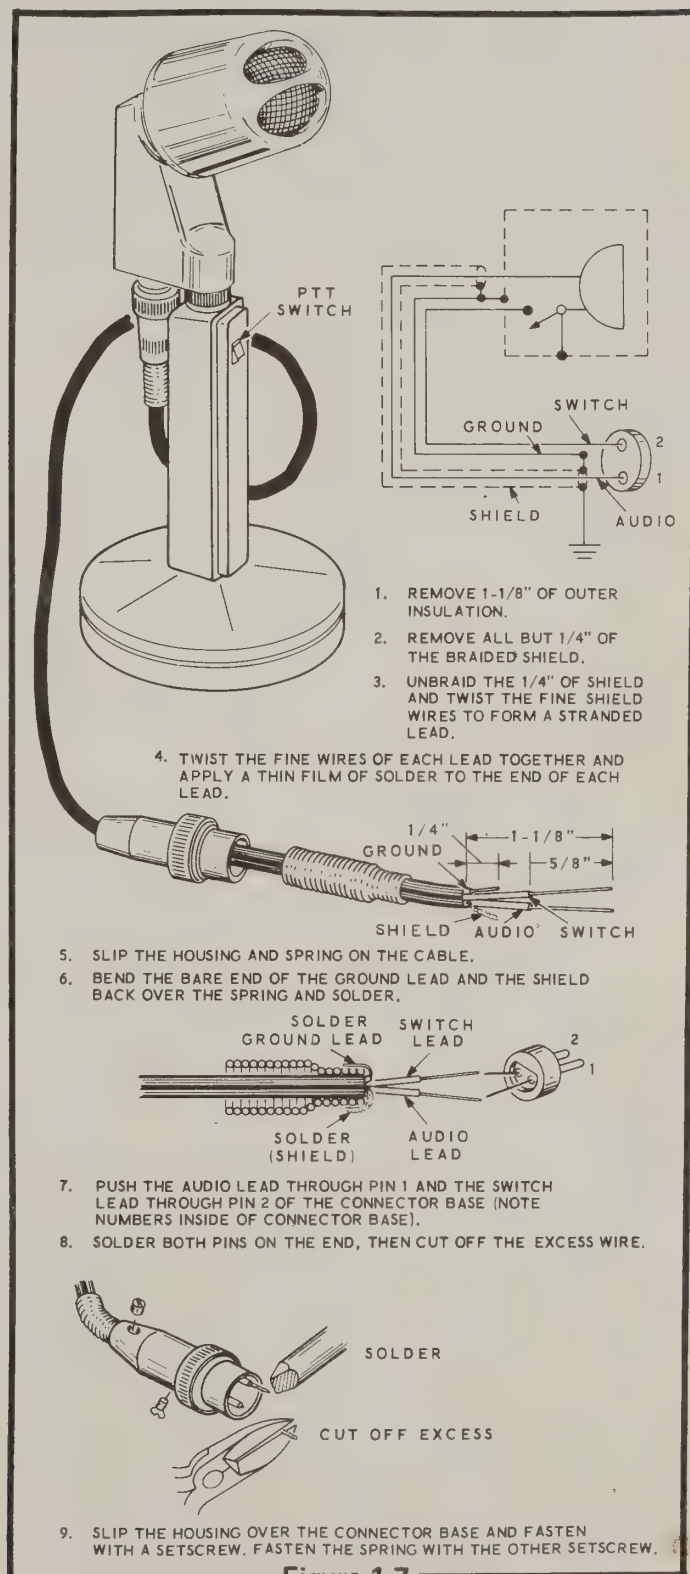

Figure 1-7
- 2) Perform the numbered steps in Figure 1-7.
If you use a microphone different than the one shown, connect the lead from the microphone element to pin 1 of the connector. If the microphone has a PTT switch, connect this lead to pin 2. Shield wires, to complete the ground side of the circuit, should be soldered to the spring as shown in Figure 1-7.